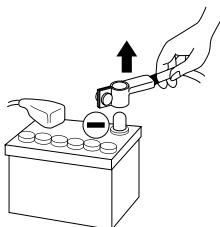

fig. 1
- **Before beginning installation, disconnect the negative battery terminal to avoid risk of injury, fire or material damage. (Fig. 1)**
- 2 - Disconnect the cable from the negative terminal on the vehicle battery before beginning installation (*Fig. 1*).